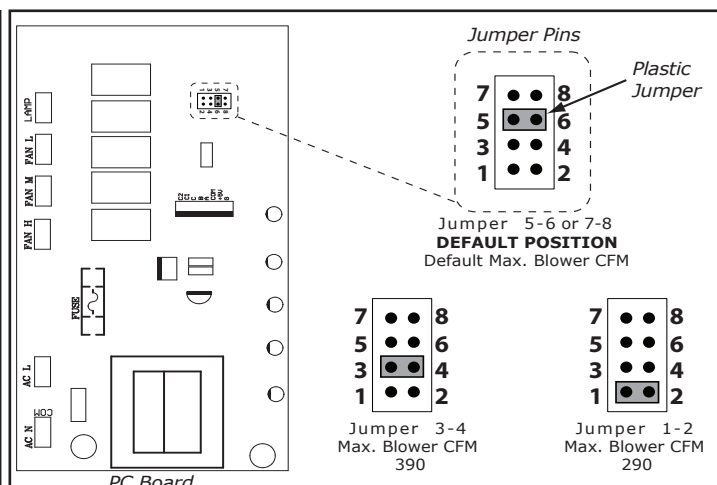

FIG. 2
2. Change plastic jumper positioning as shown in FIG. 2 to set the desired maximum blower CFM.